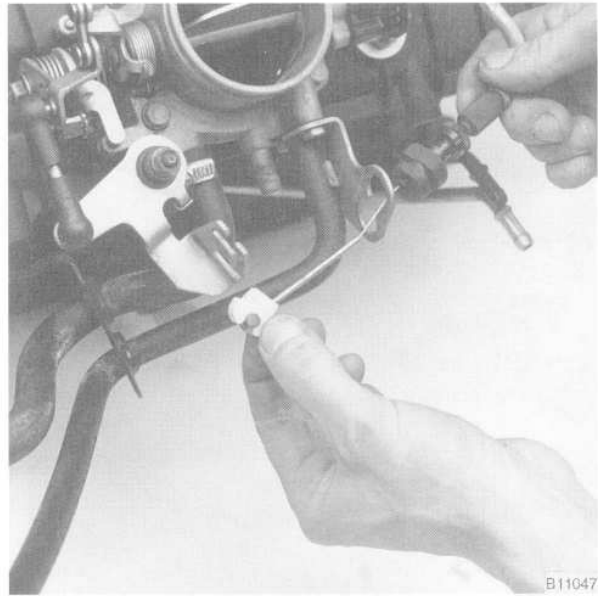

Fig. 8. Throttle cable being removed from throttle lever.
8. Disconnect the throttle cable and the cruise control cable from the throttle lever. Pull the cables together with the rubber grommet from the cable bracket. See Fig. 8.